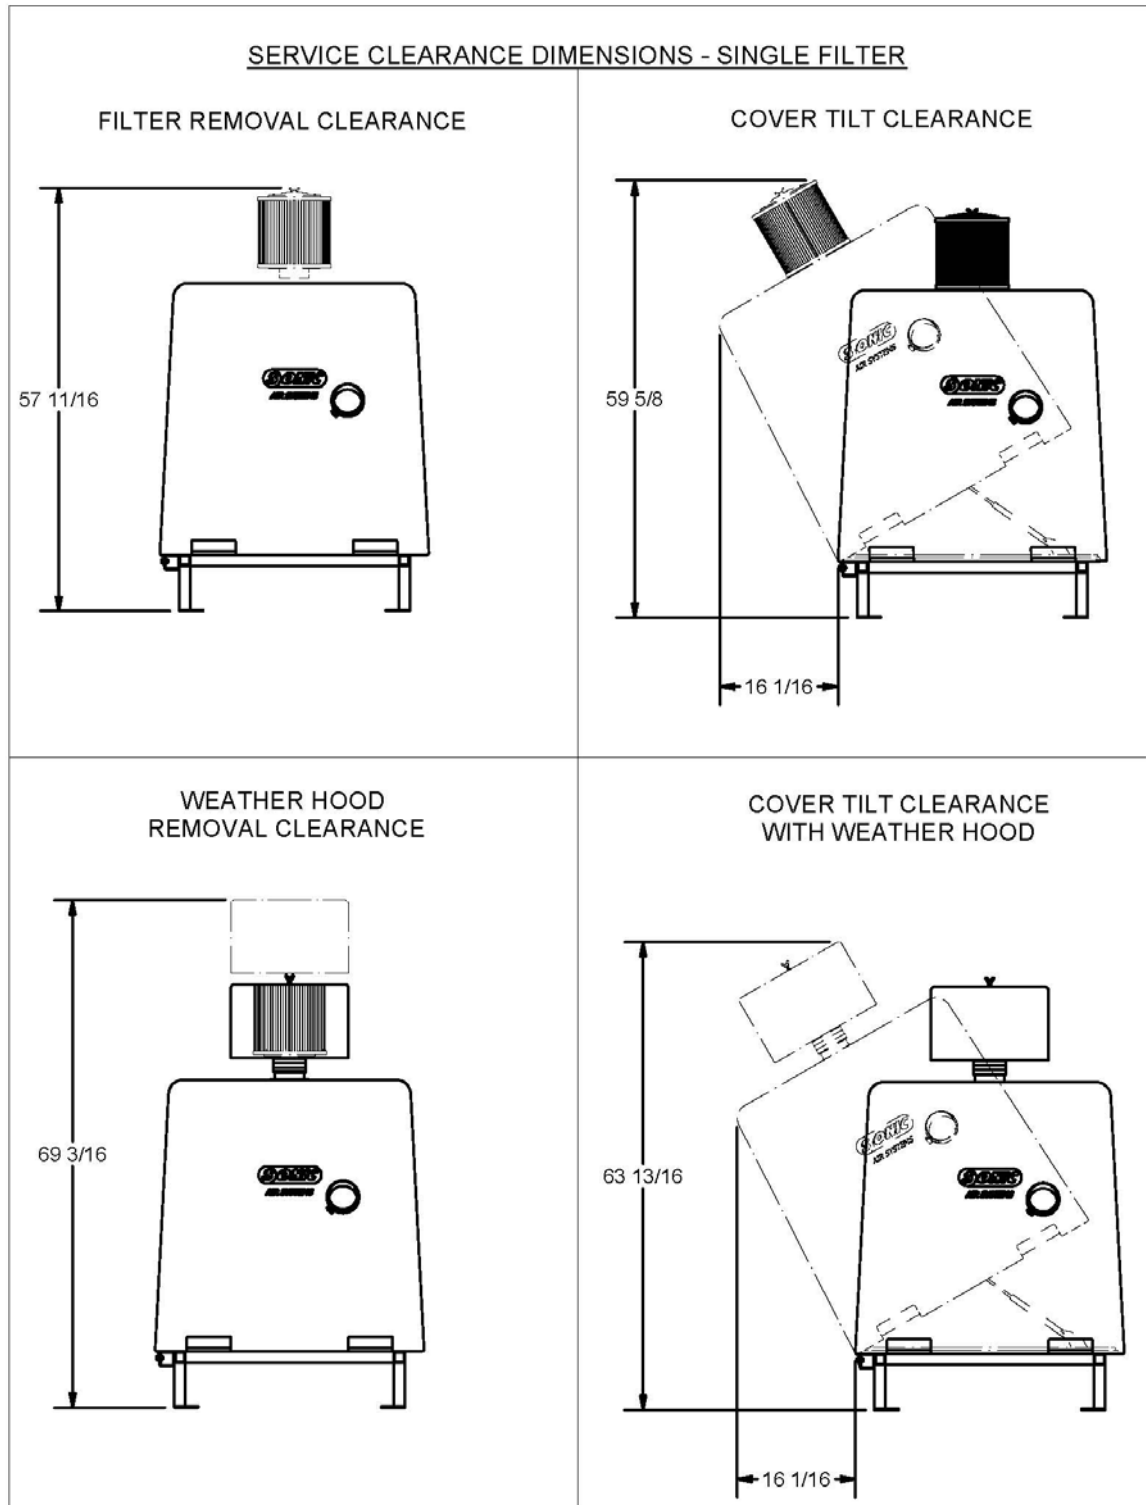

Figure 1
5. When selecting an installation location allow adequate space for service and maintenance. See *Figures 1 & 2*